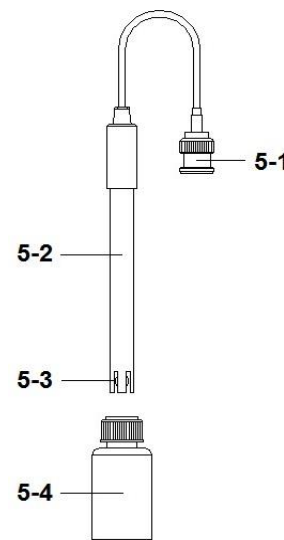

Fig. 2
2. Connect the pH electrode (optional) (5-1, Fig.2) into the pH (BNC socket) (3-16, Fig.1)
5. Hold the electrode handle (5-2, Fig. 2) by hand and let the sensing head (5-3, Fig. 2) immersed wholly into the measured solution and little shake the electrode.
NB! When not use the Electrode, it should immerse the "Electrode sensing head" (5-3, Fig. 2) into the "Protection bottle " (5-4, Fig. 2)
4. Hold the electrode handle (6-2, Fig. 2) by hand and let the sensing head (6-3, Fig. 2) immersed wholly into the measured solution and little shake the electrode, to let the probe's internal air bubble drift out from the sensing head